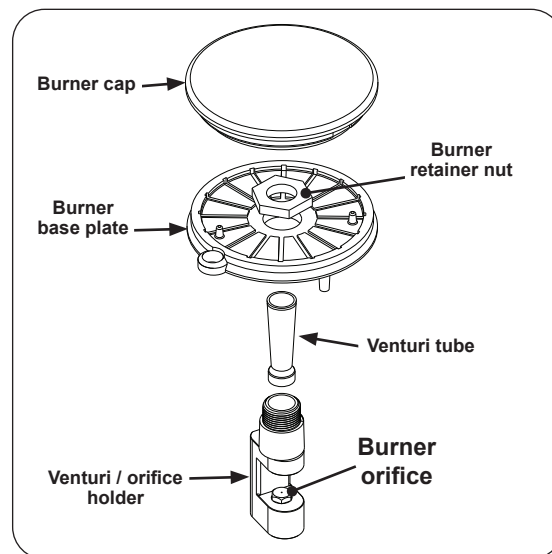

Fig. 32-1 Burner details
2. Remove the burner cap and the venturi tube (see Fig. 32-1).